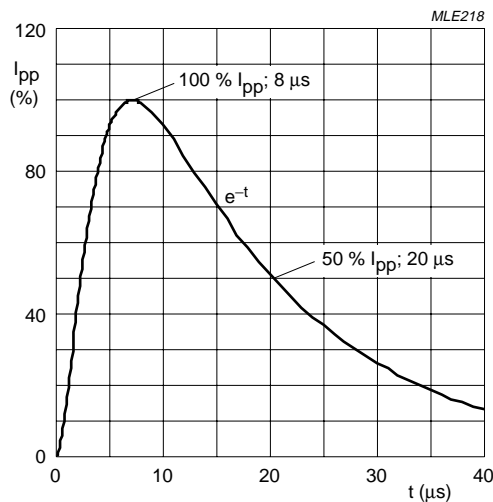

Fig.2 8/20 μs pulse waveform according to IEC 61000-4-5.
1. Non-repetitive current pulse 8/20 μ s exponential decaying waveform; see Fig.2.
1. Non-repetitive current pulse 8/20 μs exponential decay waveform; see Fig.2.